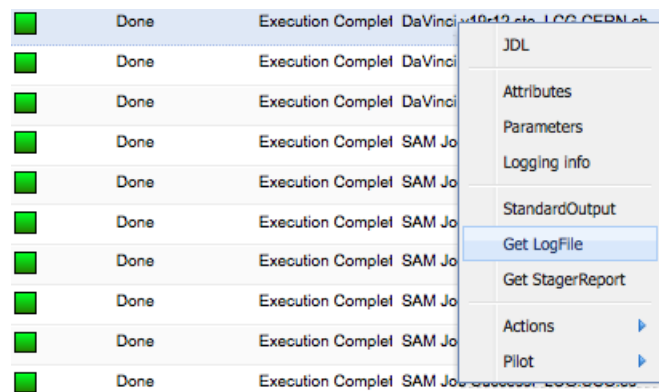

Figure 3: View all the output files of a job via the Job Monitoring Webpage.
- Select “Get Logfile” (Fig. 3).